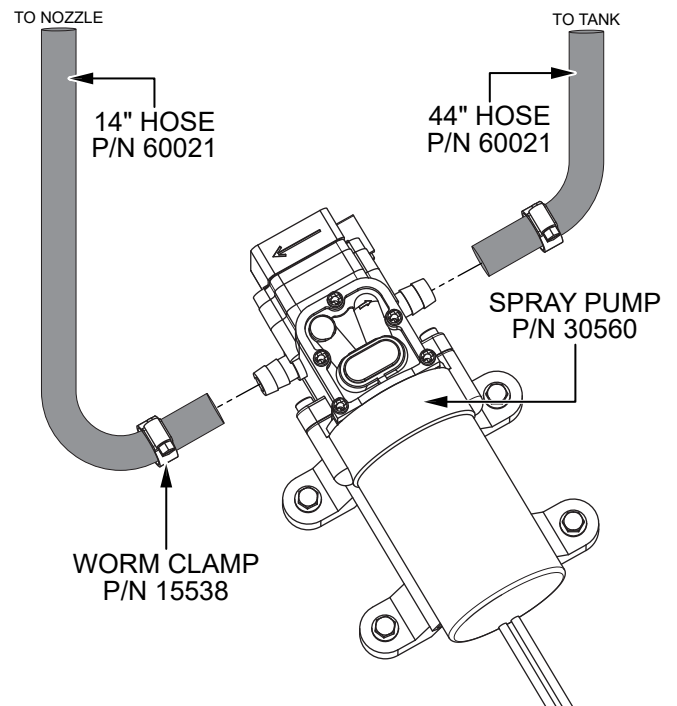

Figure 8. Connect Spray Pump Hoses
2. Use a worm clamp (P/N 15538) to secure the opposite end of the 44-inch hose (P/N 60021) to the inlet on the spray pump (P/N 30560). See Figure 8.
3. Use a worm clamp (P/N 15538) to secure one end of the 14-inch hose (P/N 60021) to the outlet on the spray pump (P/N 30560). See Figure 8.